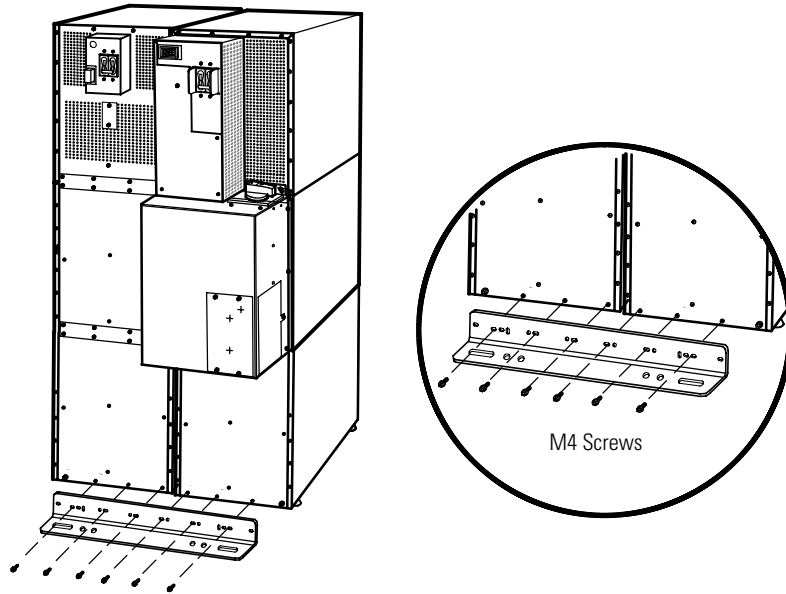

Figure 30. Stabilizing Bracket with Two Cabinets
- For two cabinets, see Figure 30.